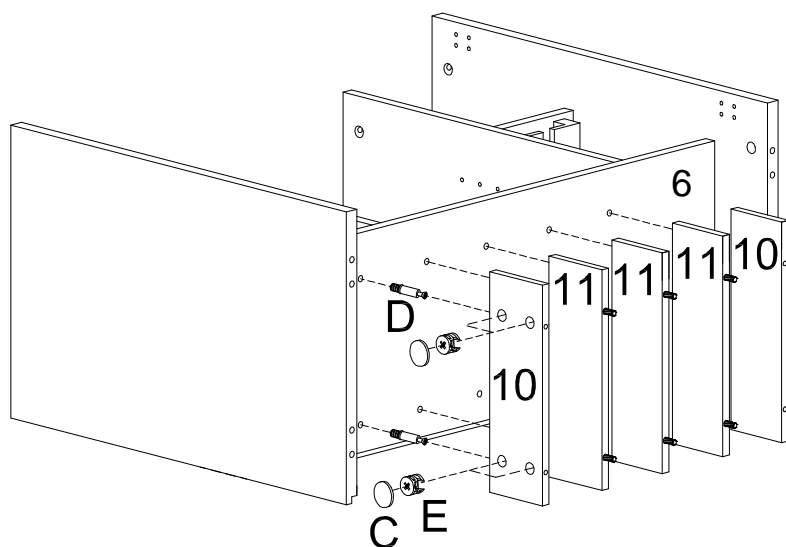

Figure 5
Insert Cam Locks (B/E) into pre-drilled holes on pre-assembled unit from figure 5
Attach pre-assembled unit from figure 5 & Bottom Panel (4) by inserting Cam Bolts (A/D) and Wood Dowel (F) into corresponding holes until all components meet.
Insert Cam Locks **(B)** into holes on assembled unit from Figure 5.